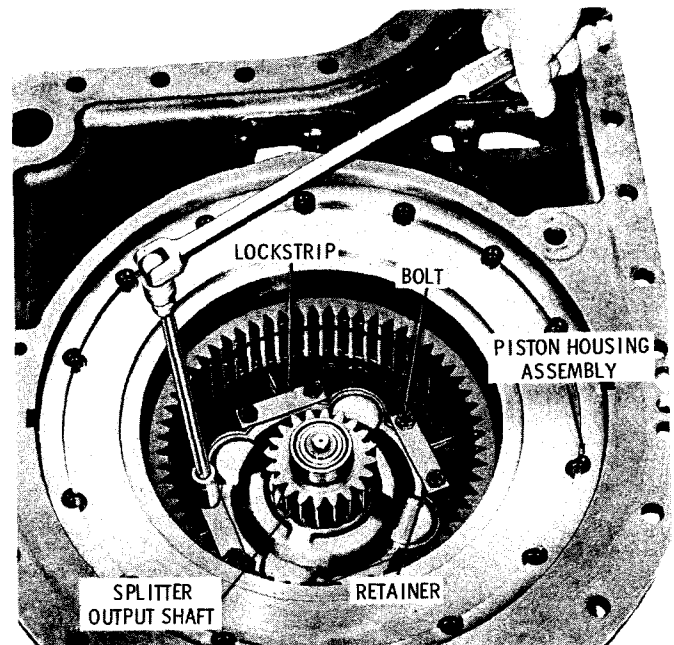

Fig. 5-66. Removing splitter output shaft retainer bolts
(5) Flatten the ends of each of the four lockstrips (fig. 5-66). Remove eight self-locking